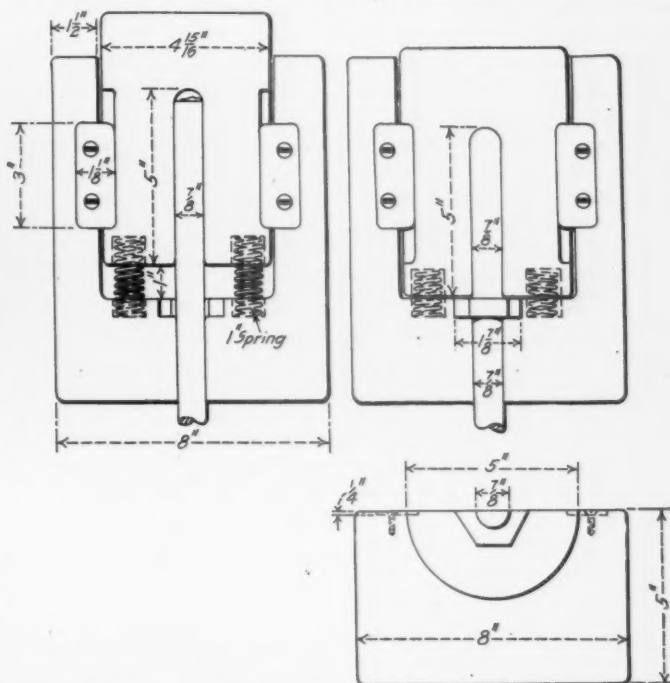

Fig. 21—Dies for Making Wedge Bolts; Norfolk & Western.
D. M. Dulin (N. & W., Portsmouth, Ohio):—Figs. 21 and 22 show dies used for making wedge bolts and great iron ends. A wedge bolt can be made with one stroke of the machine. The plunger die is forced back by the 1 in. springs and is held in place by two $\frac{1}{4}$ in. guide plates.